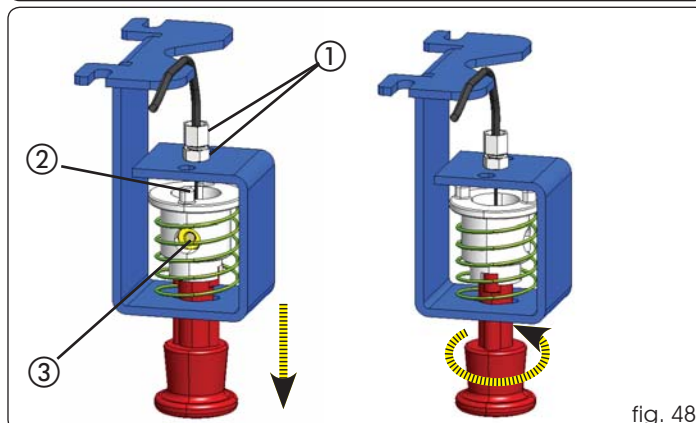

fig. 48
- Screw the adjusting screw with the relevant securing nut as shown in fig.48 ref. ①.
- Insert the steel cable into the adjusting screw; let it route inside the release device (fig. 48 ref. ②).
- Block the steel cable by means of the relevant clamp and tighten the screw (fig. 48 ref. ③).
- Block the knob by pulling it and turning it by 90° and make sure that it does not return to its original position (fig. 48).
- If adjusting operations are necessary, use the knob bracket adjusting screw (fig. 48 ref. ①).